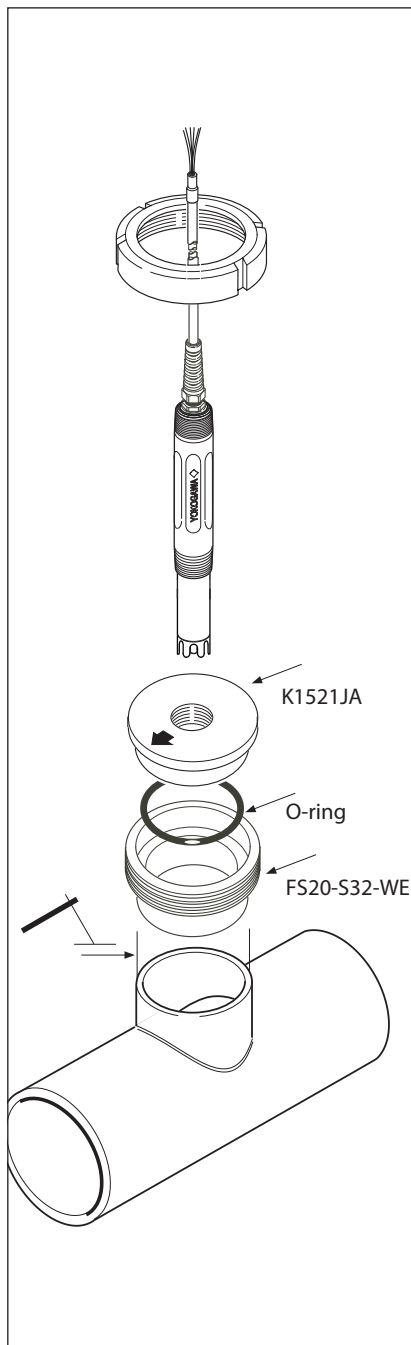

Figure 1. FS20 installation example FU24
- 2 Install the sensor in the adapter. Tighten the sensor using a wrench on the sensor flats (see Figure 1 and 2).